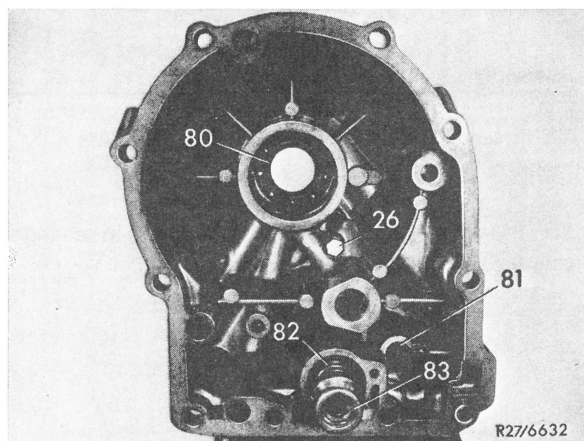

Fig. 1
- 2 Unscrew fastening bolt from cover plate of locking piston and remove locking piston (81) together with spring (Fig. 1).
- 6 Unscrew fastening bolt for secondary pump (26) (Fig. 1).
**16** Insert locking piston (81) with spring and screw down holding plate at 4 Nm (0.4 kpm) (Fig. 1).
**18** Tighten fastening bolt (26) of secondary pump to 8 Nm (0.8 kpm) (Fig. 1).